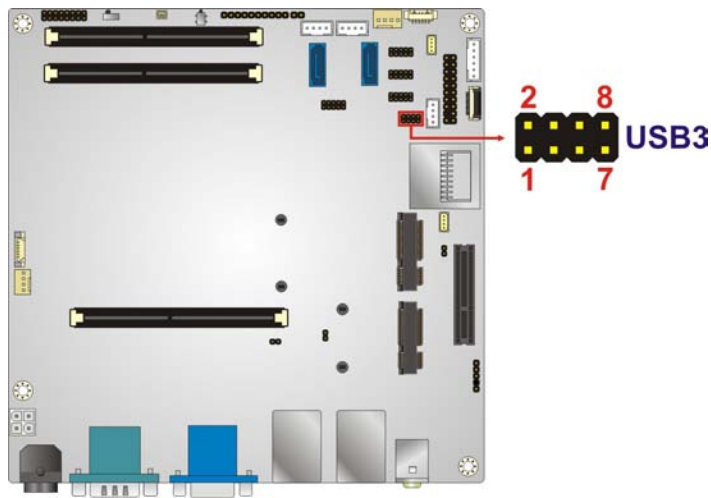

Figure 3-28: USB Connector Locations
- CN Location:See **Figure 3-28**